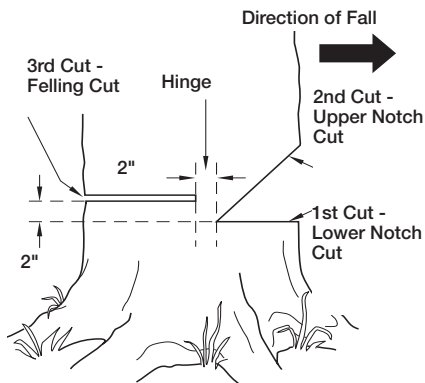

Figure 12 - Felling A Tree
A properly placed felling notch will determine direction tree will fall. Place felling notch on side of tree in direction you want tree to fall (see Figure 12). Follow directions below to create a felling notch.
1. Make lower notch cut as close to ground as possible. Hold saw so guide bar is horizontal. Cut $\frac{1}{3}$ the diameter of tree trunk (see Figure 12). Note: Always make this horizontal lower notch cut first. If you make this cut second, tree can pinch chain or guide bar.
Example: If lower notch cut is eight inches deep, start upper notch cut eight inches above it. Cut downward at 45° angle. The upper notch cut should meet end of lower notch cut (see Figure 12).
1. Make felling cut two inches higher than lower notch cut and on opposite side of tree (see Figure 12). Keep felling cut parallel to lower notch cut.
WARNING: Do not cut all the way through tree. Leave about two inches of tree diameter uncut directly behind felling notch (see Figure 12). This uncut portion acts as a hinge. The hinge helps keep tree from twisting and falling in wrong direction.